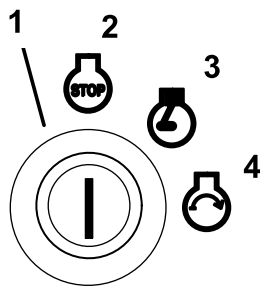

Figure 14
6. Turn the ignition key clockwise to the run position (Figure 14).
- Turn the key to the start position and the glow plug indicator light will come back on. When the engine starts, release the key (Figure 14).
- Turn the ignition key clockwise to the run position (Figure 14).
- Turn the ignition key to the off position (Figure 14). Wait for all moving parts to stop before leaving the operating position.